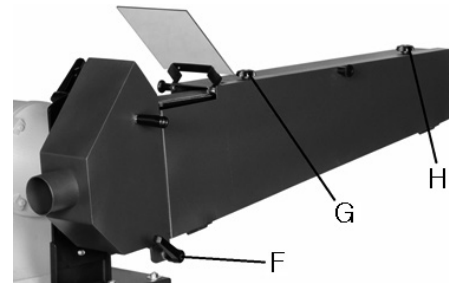

Figure 9. Access panel knobs and handles
- See Figure 9. Loosen handle F and knobs G and H to open the access panel.
- Close access panel and tighten knobs G and H (see Figure 9).